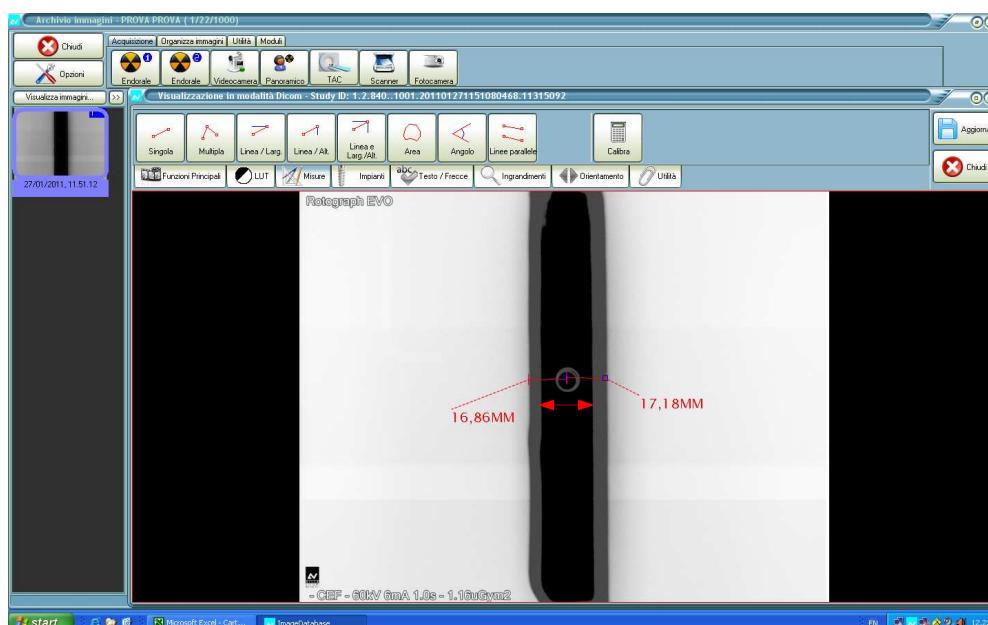

Figure 9-21
- 16.** Check on the image if the Ear Centering Circles are concentric (small circle inside the big circle – i.e. as shown in Figure 9-21).